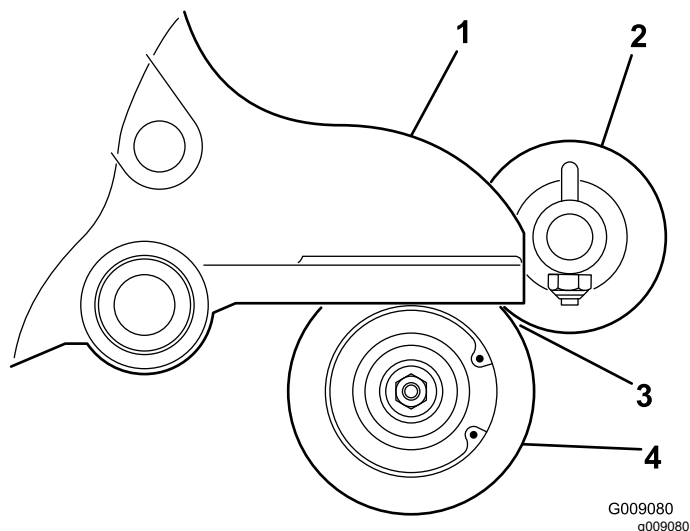

Figure 14
16. Position the roller brush so it is in light contact with (i.e., just touching or resting on) the rear roller (Figure 14).